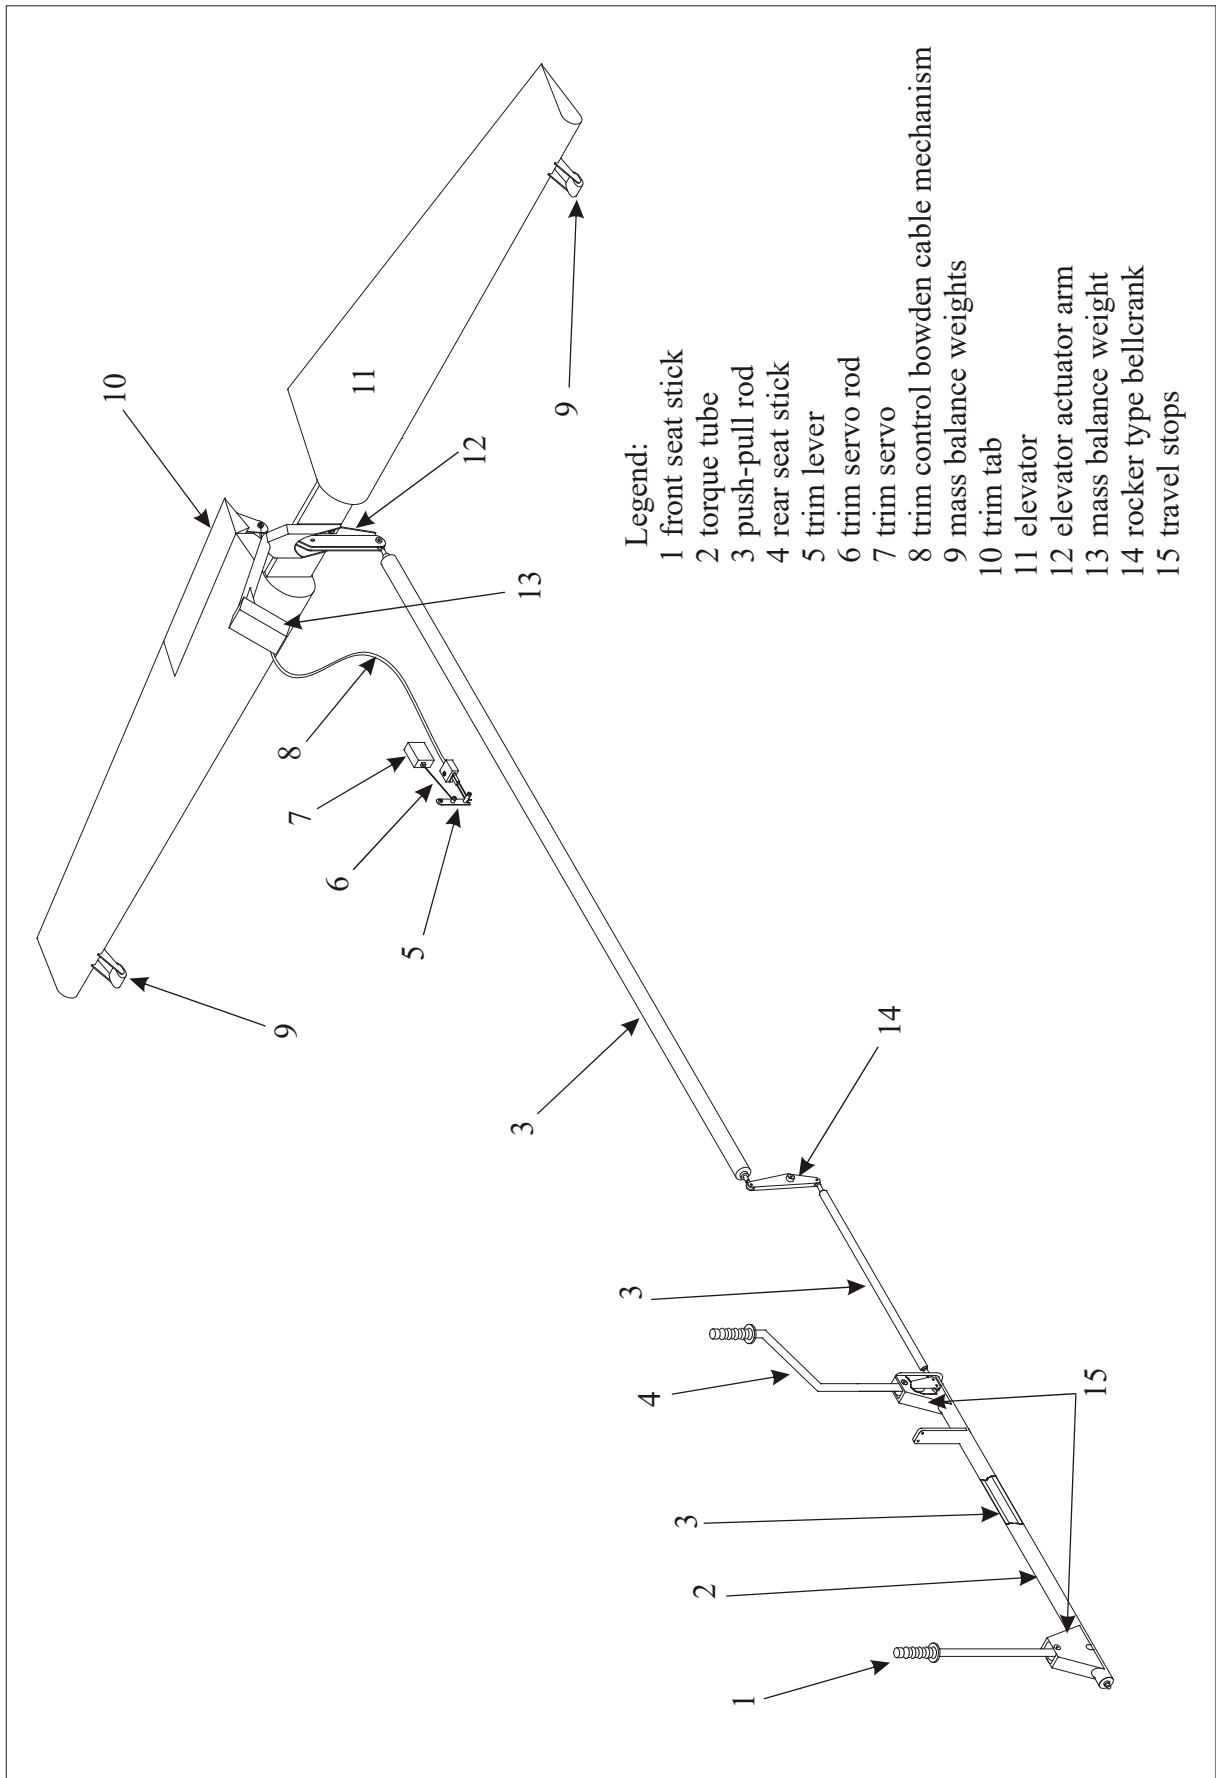

Figure 18
Refer to Figure 18.
- 1 Secure the rear control stick in neutral position (See Figure 18).
- 2 Adjust trim to slightly below middle position. 6th LED on trim position indicator illuminates (1).
- 3 Check trim lever (4) is in neutral position (angle of 11° , (tolerance $\pm 2^\circ$) to the firewall plane or 79° to upper long-erons). If it is not, proceed as follows:
- a Remove the trim servo rod (2) from the trim servo (3) and the trim lever (4) by removing the clevis pins with cotter pins and washers.
- 4 Bring the trim tab (8) in 0° -position (upper surfaces of elevator (7) and trim tab (8) are in the same plane) by replacing the linkage bolts (5 and/or 9).
- 5 Trim to extreme positions and check if trim tab travel is up 35° and down 27° (tolerance $\pm 2^\circ$). If it is not, check free travel of the trim lever (4) and Bowden cable (6).